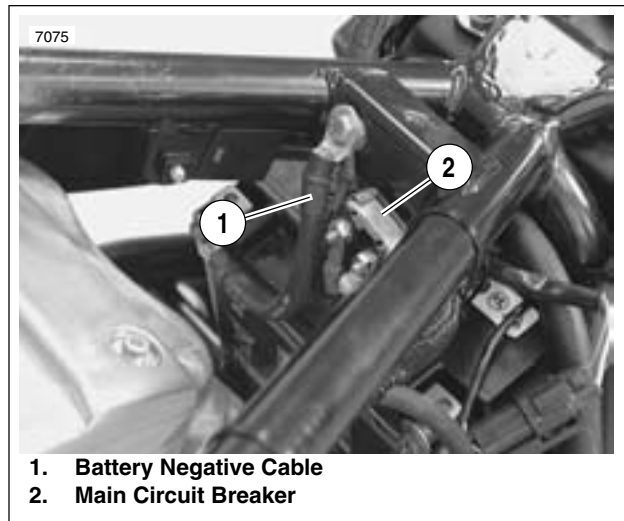
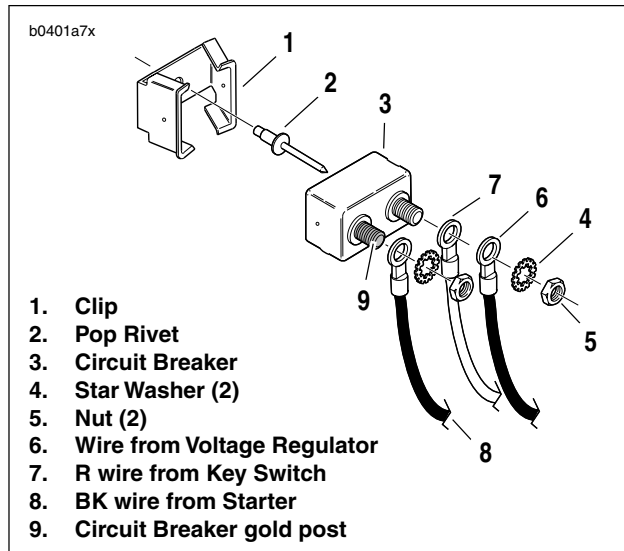

Figure 7-28. Circuit Breaker
Figure 7-29. Circuit Breaker Installation
See Figure 7-28. Attached to the frame above the battery, the main circuit breaker (1) is between the ignition key switch and the battery. Remove the main circuit breaker as follows:
2. Remove battery negative cable (1) from frame.
3. See Figure 7-29. Remove nuts (5), star washers (4) and wire leads (6, 7 and 8) from circuit breaker studs.
4. Remove circuit breaker (3) from circuit breaker clip (1).